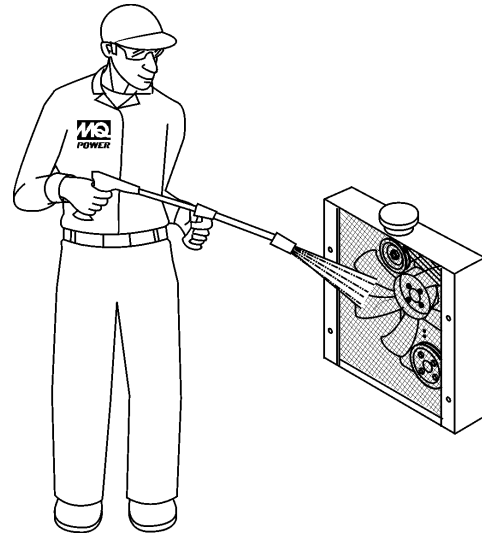

Figure 60. Air Cleaner/Indicator
- The radiator (Figure 60) should be sprayed (cleaned) with a high pressure washer when excessive amounts of dirt and debris have accumulated on the cooling fins or tube. When using a high pressure washer, stand at least 5 feet (1.5 meters) away from the radiator to prevent damage to the fins and tube.